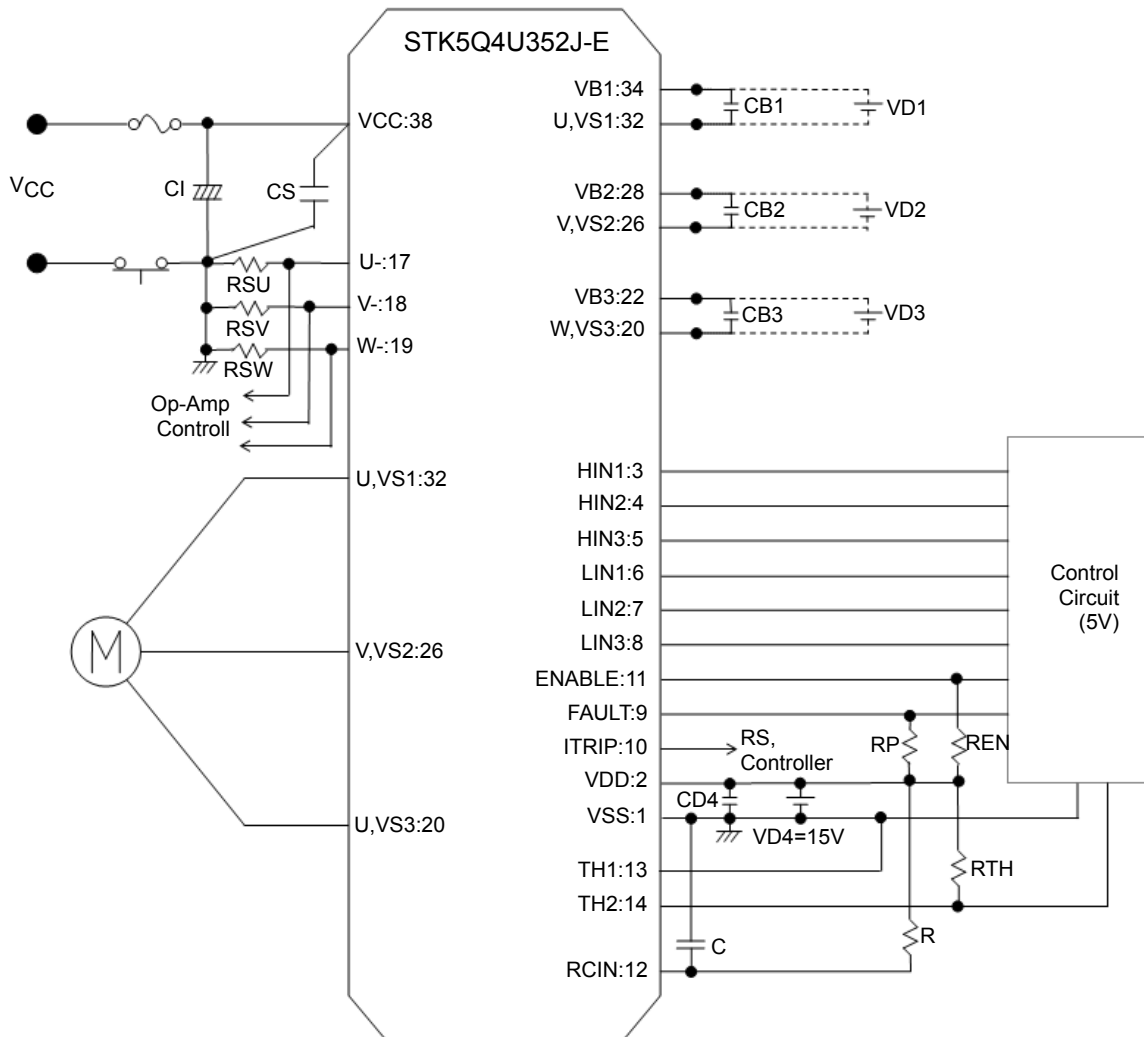

Fig. 9
4. The “FAULT” terminal (Pin 9) is open Drain (It operates as “FAULT” when becoming Low). When the pull up voltage (VP) is 5V, connect pull up resistor (RP) with resistance of 6.8kΩ or above, and in case of VP=15V, connect RP with resistance of 20kΩ or above.
5. The “ENABLE” terminal (Pin 11) serves as the shut down input of the built-in pre-driver. (Normal operation when the terminal voltage is above 2.5V. Shut down when it is equal to or less than 0.8V.) Please make pulling up outside so that “ENABLE” terminal voltages become more than 3V. When the pull up voltage (VP) is 5V, connect pull up resistor (REN) with resistance of 6.8kΩ or above, and in case of VP=15V, connect RP with resistance of 20kΩ or above.
6. Inside the IPM, a thermistor used as the temperature monitor for internal substrate is connected between TH1 terminal and TH2 terminal, therefore, an external pull up resistor connected between the TH1(or TH2) terminal and an external power supply should be used. Please check the temperature monitor application at Fig9, and Fig10.